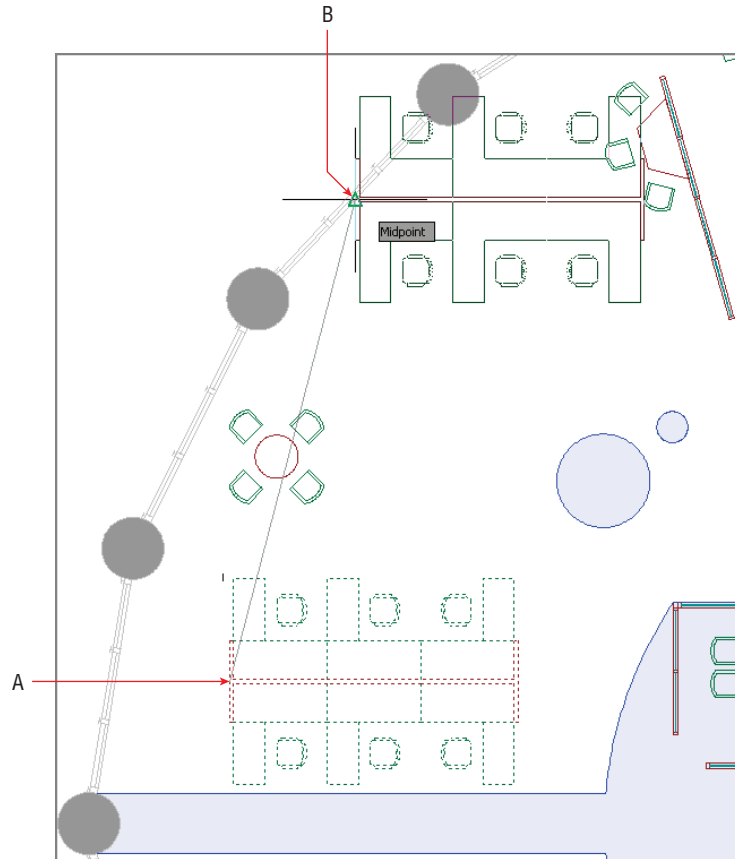

FIGURE 4.16 Copying a furniture group to a new center of rotation
5. Zoom out and focus on the upper-left quadrant of the building. Type **CO** (for Copy), and press Enter. Select the furniture group shown in Figure 4.16, and press Enter. Select midpoint A as the base point, and select midpoint B as the second point. Press Esc to end the command.